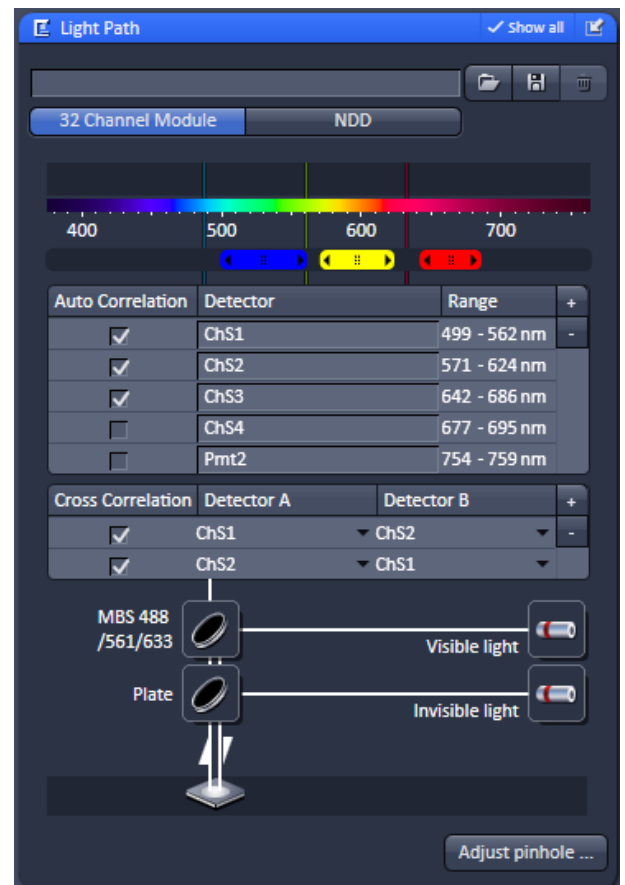

Fig. 264 Light Path tool opened for the 32 Channel Module
- Click on the MBS icon to open a list of dichroics (Fig. 264).